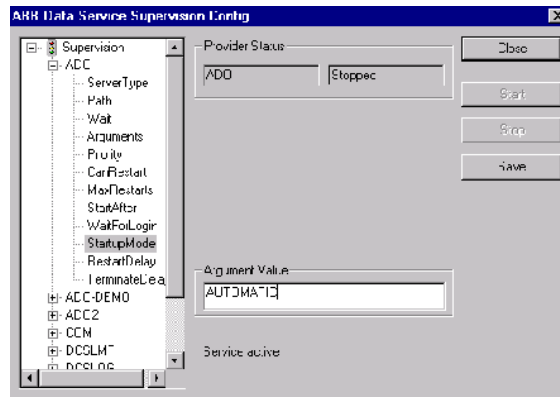

Figure 54. Changing StartupMode to Automatic
6. Set the Argument Value field to **AUTOMATIC**, as shown in Figure 54.